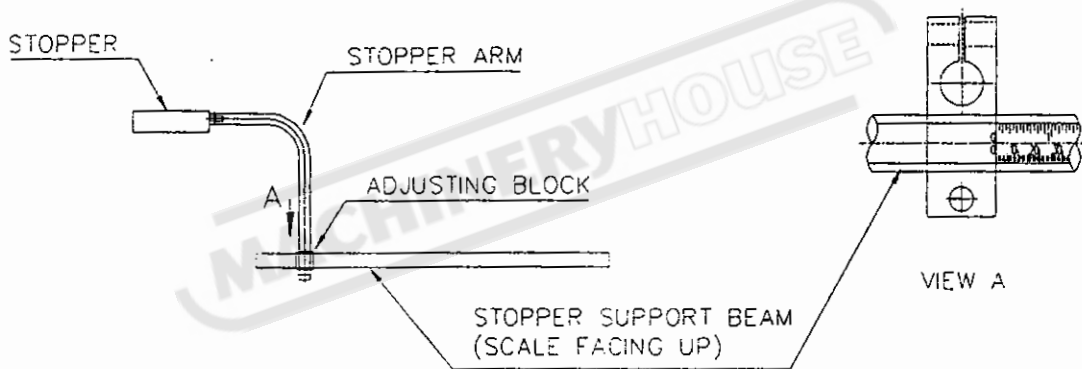
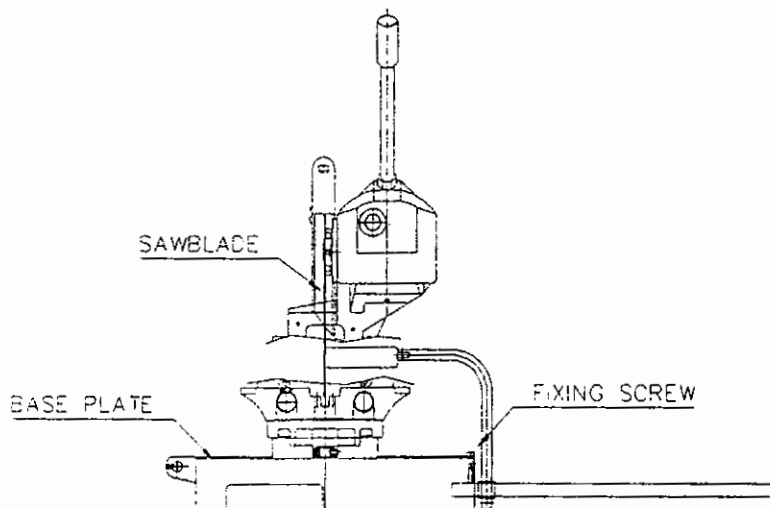

FIGURE 1
FIGURE 2
- (1) Mount the stopper arm at the "0" point on the stopper support beam as illustrated on following figure1.
- (2) Put the stopper support beam into the hole in the base plate.
- (3) Fix the stopper support beam when the stopper is just touching the sawblade as illustrated on following figure2.